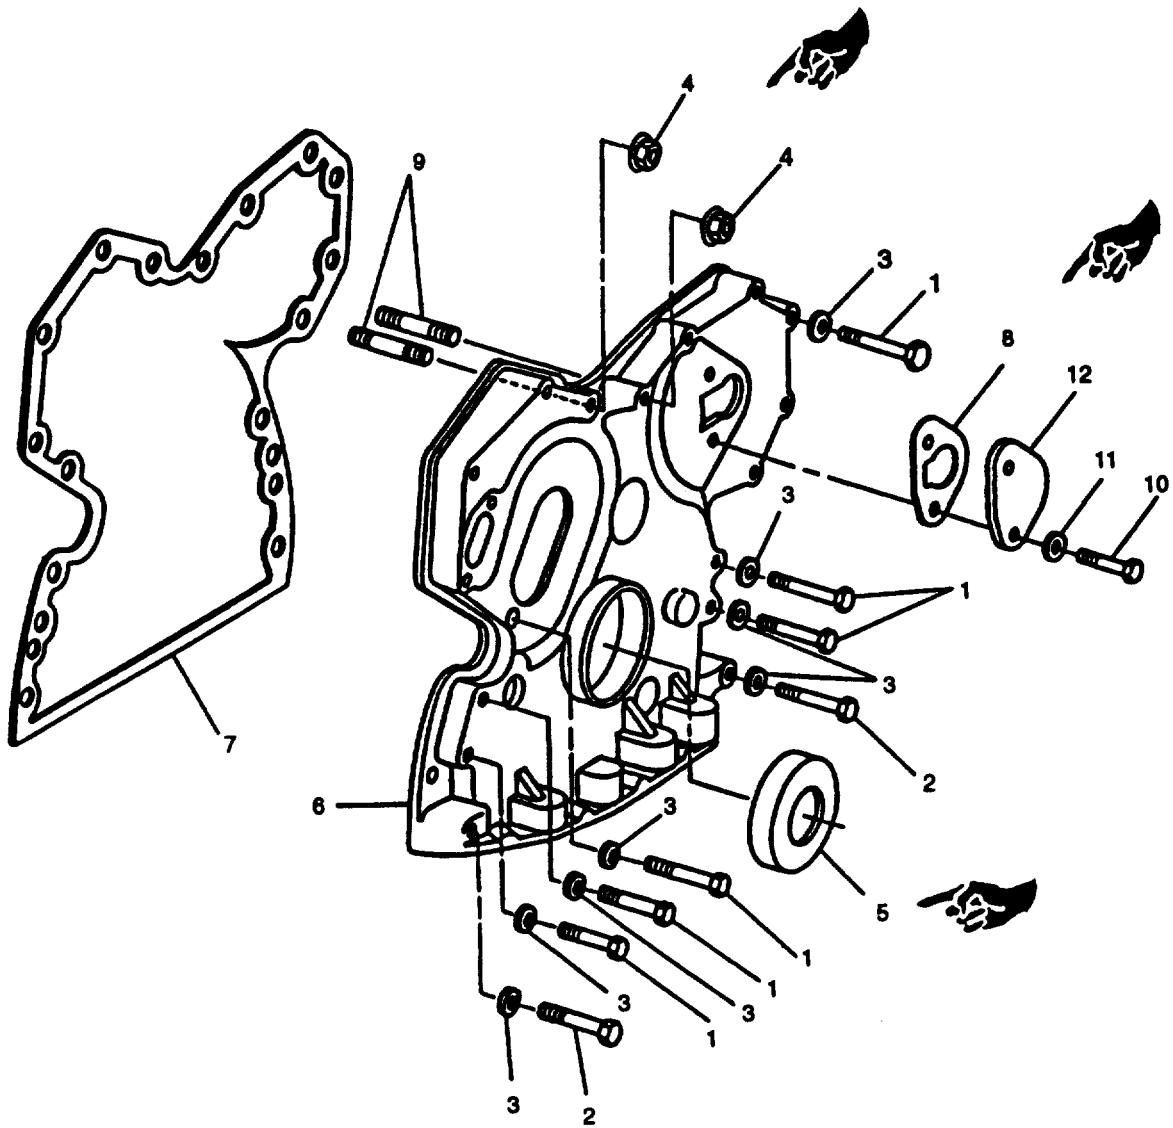

FIGURE 3-107. Timing Gear Cover
- j. Remove ten capscrews (1, FIGURE 3-107), two capscrews (2), fourteen washers (3), and two nuts (4) securing timing gear cover (6); remove cover (6) and gasket (7) from engine block. Discard gasket (7).
- k. Using suitable driver, remove seal (5) from front cover.
- l. Remove two studs (9) from engine block.
- m. Remove two capscrews (10) and washers (11) securing access cover (12); remove cover and gasket (8). Discard gasket.
- a. Install access cover (12, FIGURE 3-107) and new gasket (8) on timing gear cover (6) and secure with two capscrews (10) and washers (11).
- b. Install two studs (9) in engine block.